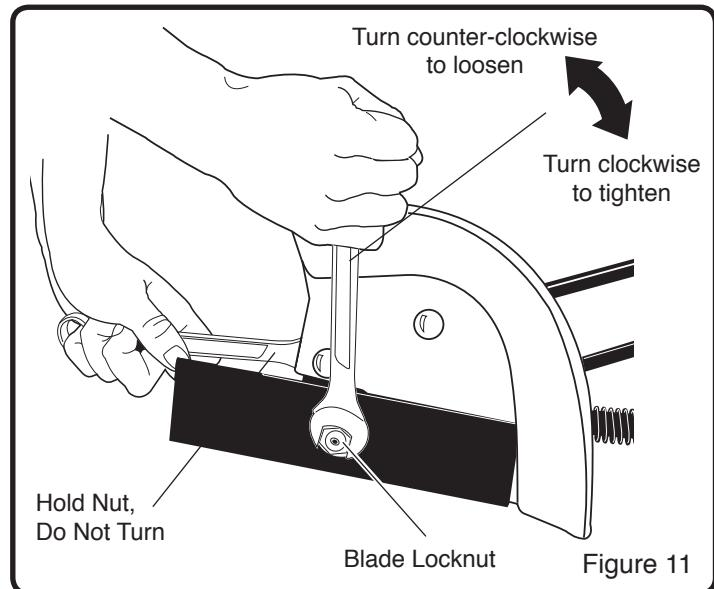

Figure 11
**Note:** Replacing the blade requires two (2) 12" adjustable wrenches, or two (2) 3/4 in. [19mm] wrenches.
3. Remove the blade locknut that holds the blade to the drive shaft. (See Figure 11)
To remove or tighten the blade locknut, always use the method shown in Figure 11. Always position the holding wrench on the nut behind the blade.